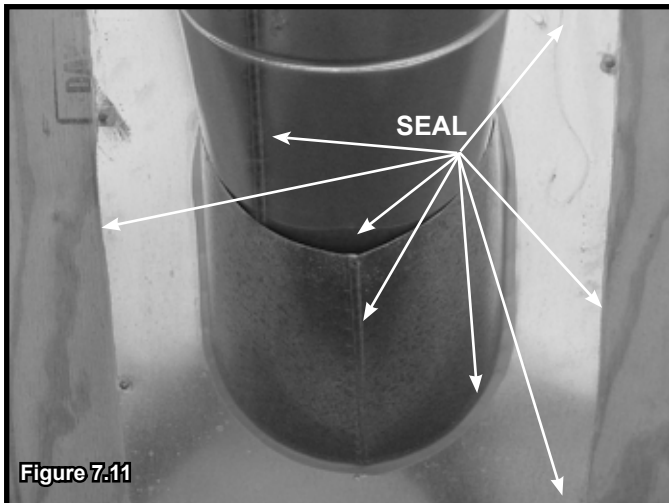

Figure 7.11
- Slide the roof flashing over the pipe sections extending through the roof as shown in Figure 7.11.
- Seal the perimeter of the flashing where it contacts the roof surface. See Figure 7.11.